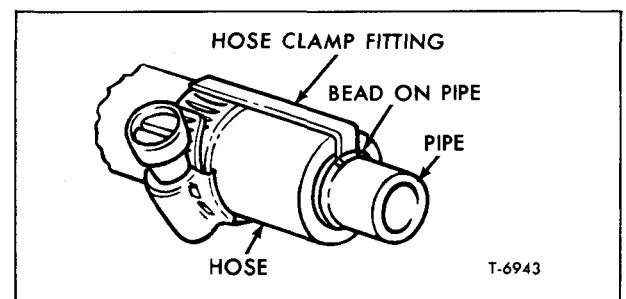

Figure 30—Hose and Clamp Properly Installed
1. Replace leaking seal, hose, or line. See figure 30 for proper positioning of hose and hose clamp.